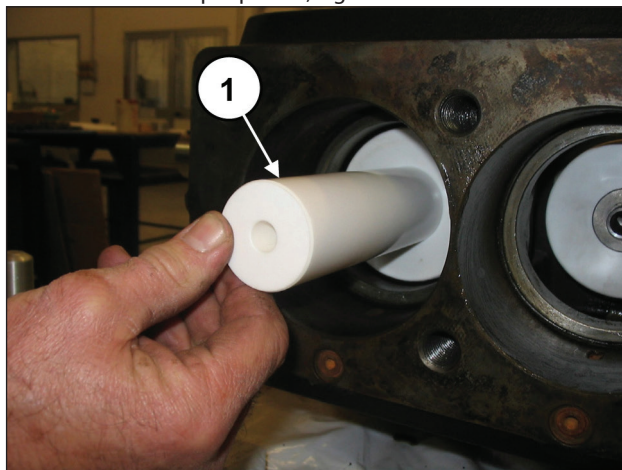
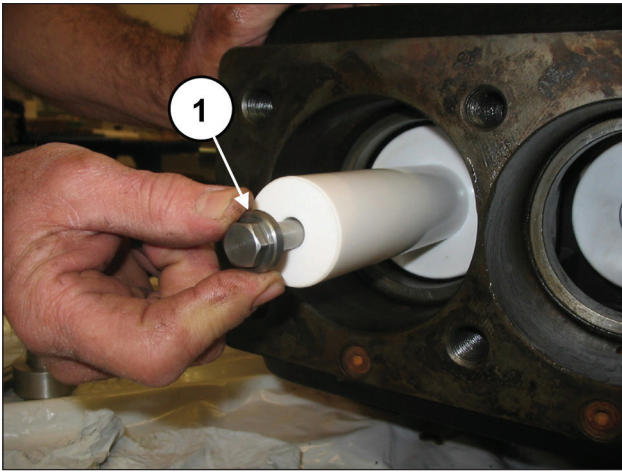

Fig. 147
Fig. 148
Install the pistons on their respective guides (pos. ①, Fig. 147) and fasten them as per pos. ①, Fig. 148.